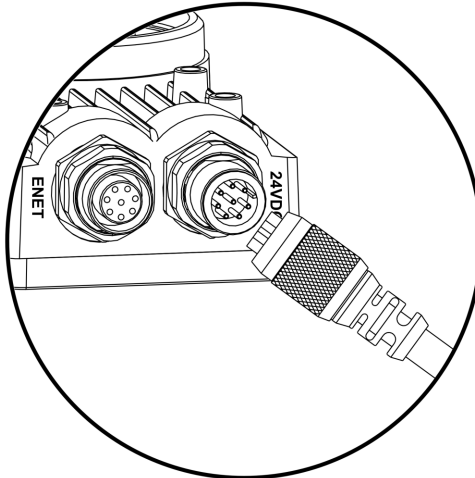

Figure 3-8: Connecting the Expansion Module to the Sensor
5. Plug the M12 connector of the I/O Module Cable into the sensor's 24VDC connector (Figure 3-8).